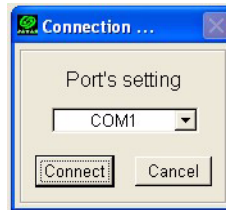

Figure 2-30. Connection to Modem-JNS
4. Open Modem-JNS and select the COM port the receiver is connected to (Figure 2-30).